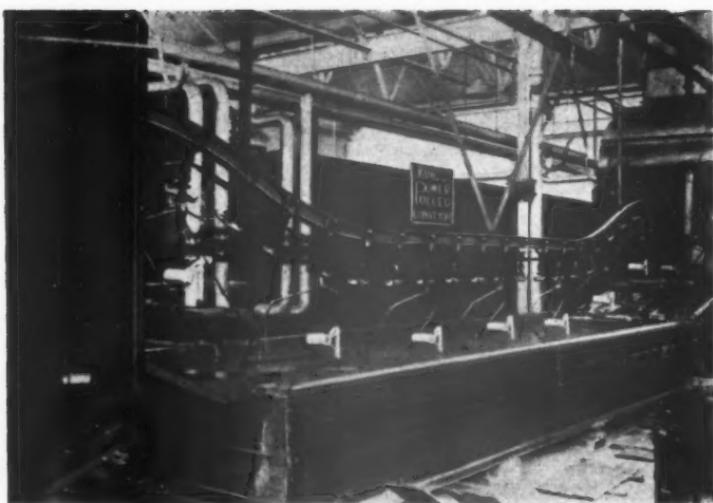

FIG. 17.
**VALUE ON PROCESS WORK** When used for process work the speed of the conveyor is usually not more than about four feet per minute, and for this purpose conveyors are a great asset as they exercise a rigid control over the duration of the process. Fig. 17 shows refrigerator units being taken through a bath and afterwards through an oven. It can be seen that the duration of immersion and baking is very rigidly controlled, and once established there can be no doubt that every article will receive exactly the same treatment. If it is desired to vary the duration of the process a variable speed gear can be fitted to the driving unit, controlled if necessary from a remote point with electrically operated speed indicators or recorders.